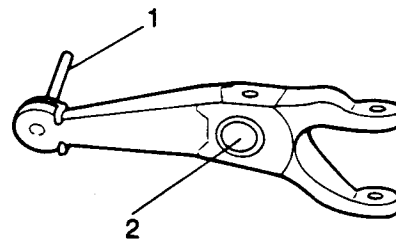

Fig H1.32
- (8) Refer to Fig H1.32. Replace the supporting bush (2) in the pivot.
- (9) Fit the push rod (1) to the clutch lever and secure with the plastic clip.